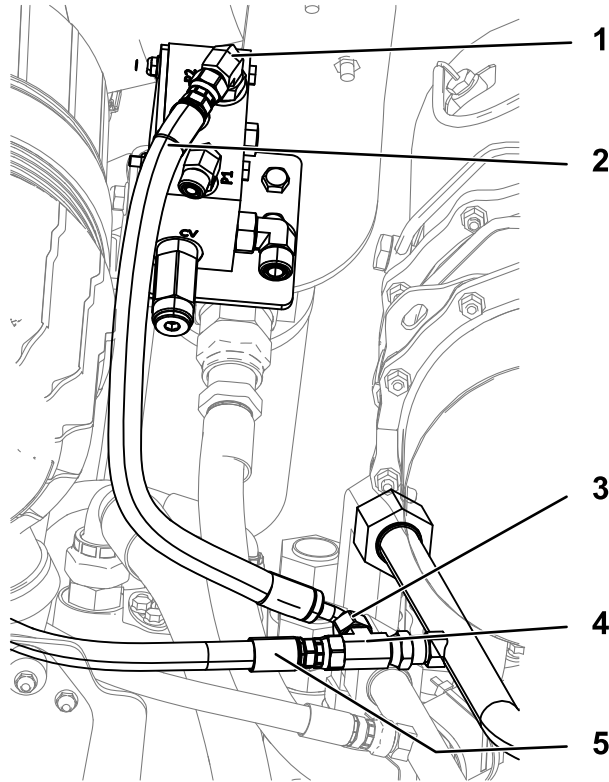

Figure 8
4. Torque the fittings (**Figure 8**):